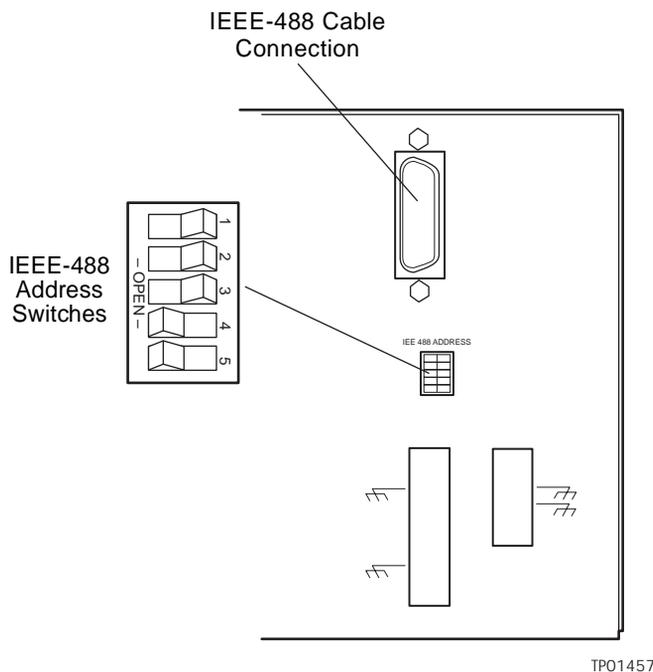

Figure 1-4 Locating the IEEE-488 Address Switches
1. Use a small screwdriver (or similar device) to set the DIP switches on the detector rear panel (Figure 1-4) to the IEEE-488 address of the 996 detector. The address must be a number from 2 to 29 and must be unique within your network.